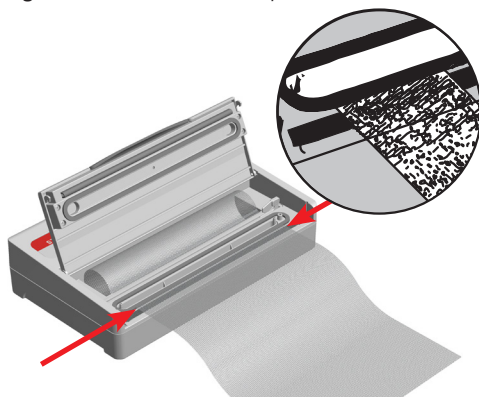

Figure 5: Place the roll on the Sealing Strip and extend it to the Black Gasket to seal.
- c.) Place the roll on the Sealing Strip and extend it to the **Black Gasket** (*Figure 5*). Make sure that the edge is straight and level.